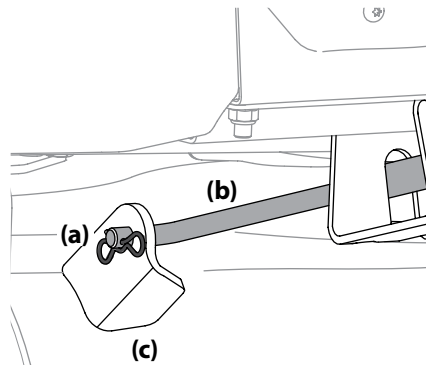

Figure 4-16
9. Pull the cotter pin (a) out of the front deck lift rod (b) securing it to the deck. See Figure 4-16. Slide the deck lift rod out of the front hanger bracket (c).
- Reinstall the front deck lift rod and secure in place with the cotter pin. Refer to Figure 4-16.